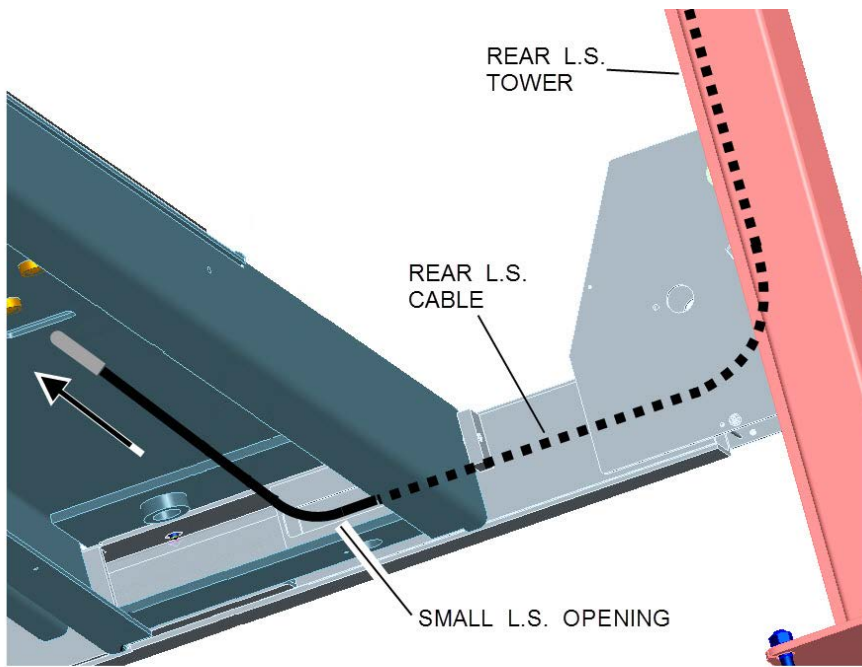

Figure 49
- Continue routing the cable, non-threaded sleeve first, through the rear cross-member. Pull sleeve end of the cable through the smaller opening under the rear of the left side runway (**Fig.49**).